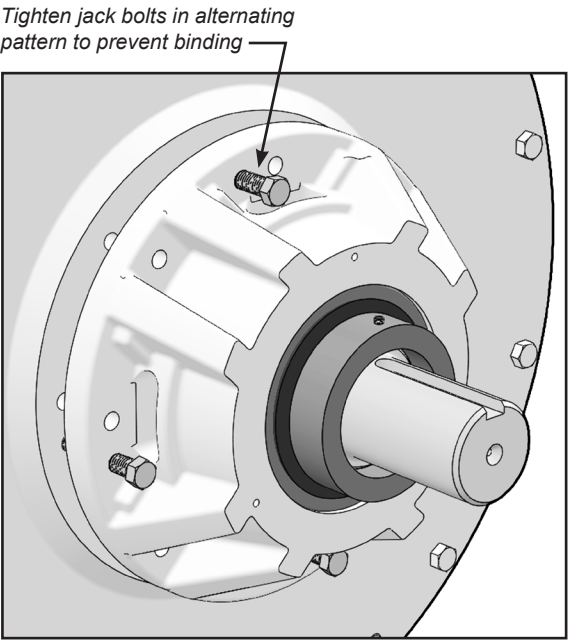

FIGURE 11
- 10. Alternately tighten opposing jack bolts 1/4 turn at a time until cartridge can be pulled from endplate (Figure 11). Properly dispose of bearing cartridge.